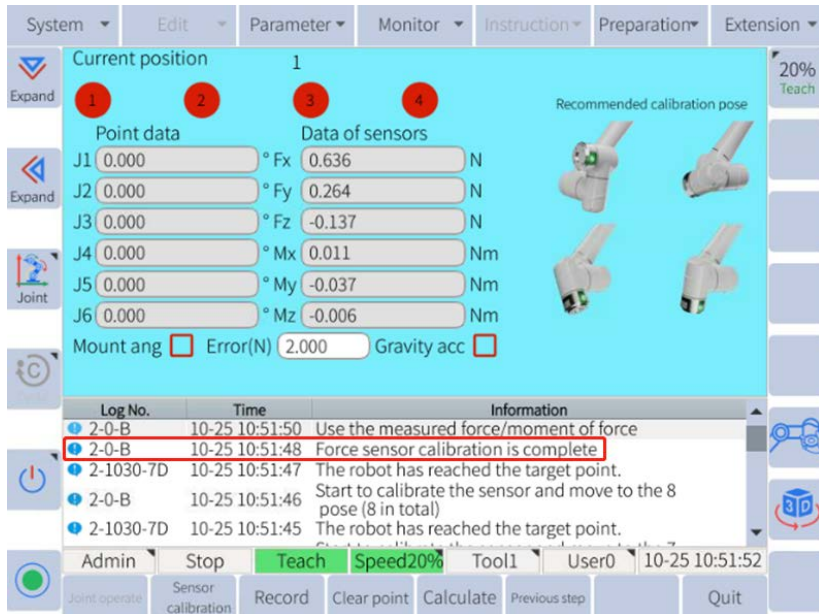

Figure6-33 : Sensor calibration is complete
- d. When "Robot has reached the target point" appears in the display, please click **Sensor calibration** again until "Sensor calibration is complete" appears in the display, as shown in **Figure 6-33** (If the pose is influenced in the automatic operation, please release the servo and manually operate the 4th, 5th and 6th joint. After changing the robotic pose, you can hold the servo and click **Sensor calibration** again.).